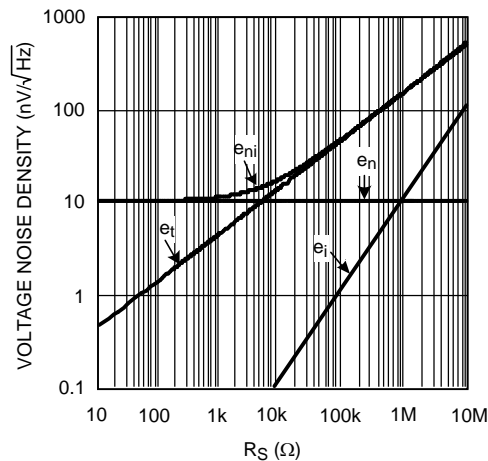

Figure 52. Total Input Noise
**Figure 52** shows the typical input noise of the LMP7701/LMP7702/LMP7704 as a function of source resistance where:
As is evident in **Figure 52**, at lower  $R_S$  values, total noise is dominated by the amplifier's input voltage noise. Once  $R_S$  is larger than a few kilo-Ohms, then the dominant noise factor becomes the thermal noise of  $R_S$ . As mentioned before, the current noise will not be the dominant noise factor for any practical application.